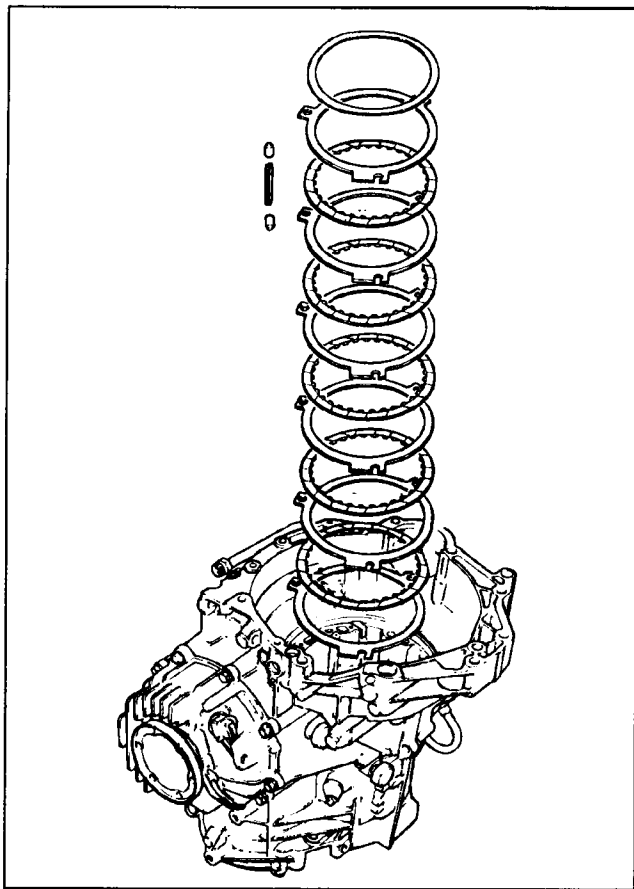

Figure 160
30. Install the B2 clutches on the top of the hollow supporting tube in the following order shown in Figure 160 below. Steel, friction, steel, friction, steel, friction, steel, friction, thick steel, or use two regular steel plates, waved steel. Set clutch clearance according to Page 68 Figure 157, 158 and 159.